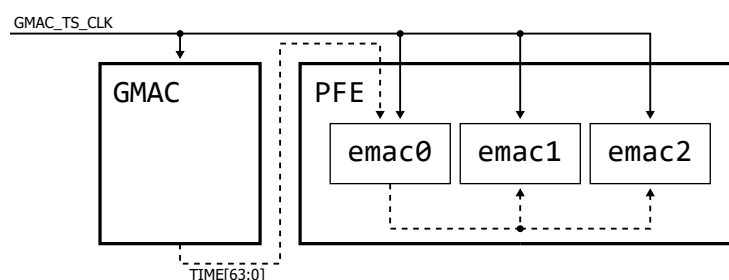

Figure 7.1: S32G2 IEEE1588 clock distribution
S32G platform allows multiple clock configurations depicted in figure 7.1.
7.1.1 Internal Timestamp Mode(full line figure 7.1)
7.1.2 External Timestamp Mode(dashed line figure 7.1)